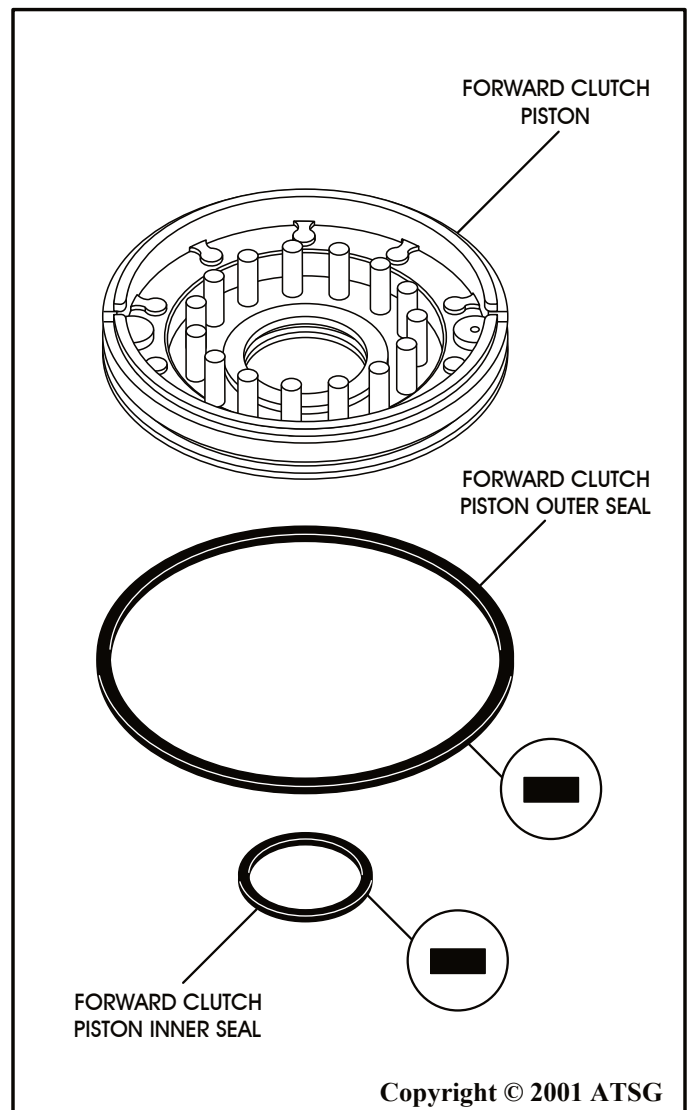

Figure 85
7. Install a new inner "D" ring seal into the groove in the forward clutch piston (See Figure 85)
8. Install a new outer "D" ring seal into the groove in the forward clutch piston (See Figure 85).